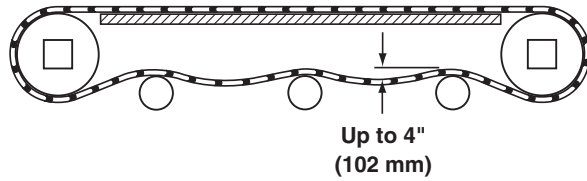

Figure 36
4. Check belt sag by measuring from the top of the return (Figure 36). Belt sag should not exceed 4" (102 mm). Follow steps 7 – 9 in the "Belt Installation" section on page 12 to remove slack from the belt.